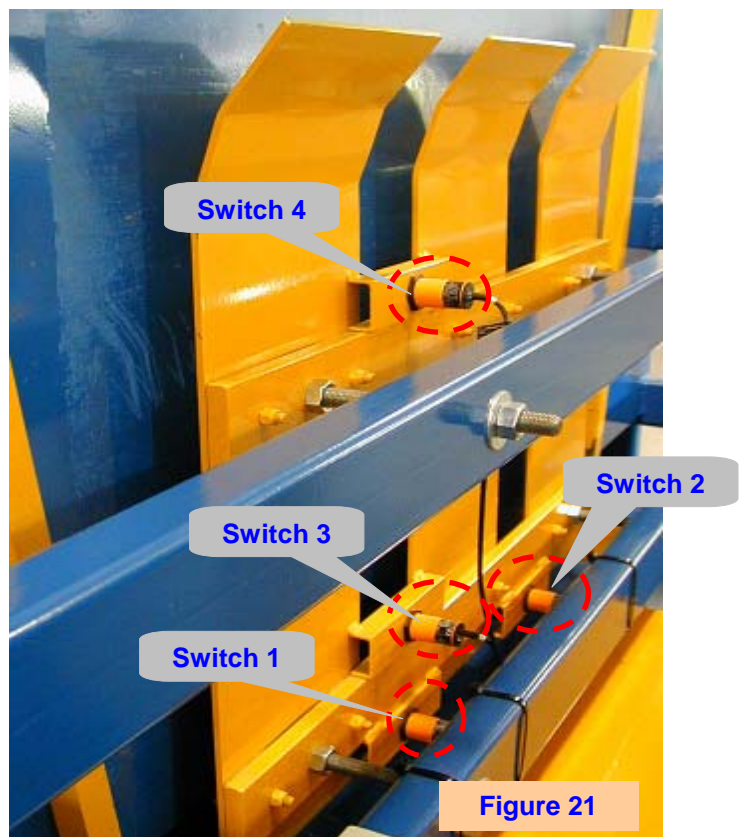

Figure 21
If you have a factory installed descrambler deck, there will be four (4) proximity switches attached to the support brackets (**Figure 21**). These switches communicate with the descrambler deck and work in sequence to monitor the amount of material in the hopper.